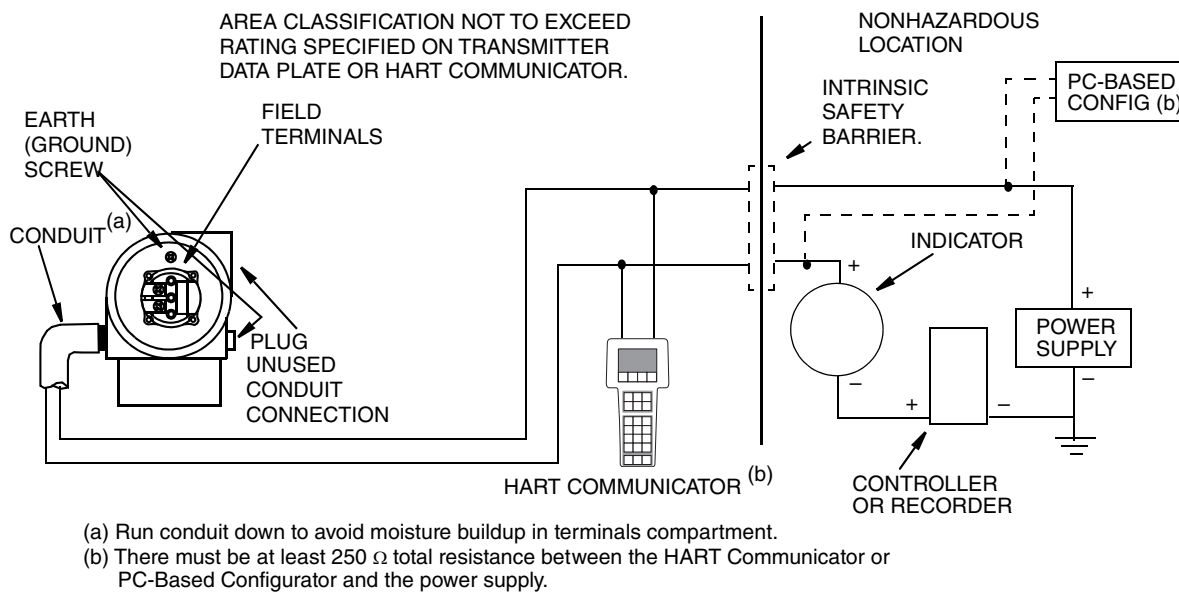

Figure 10. Loop Wiring Transmitters
7. Connect receivers (such as controllers, recorders, indicators) in series with power supply and transmitter as shown in Figure 10.
9. The HART Communicator or PC-Based Configurator can be connected in the loop between the transmitter and the power supply as shown in Figure 10. Note that a minimum of 250 Ω must separate the power supply from the remote configurator.